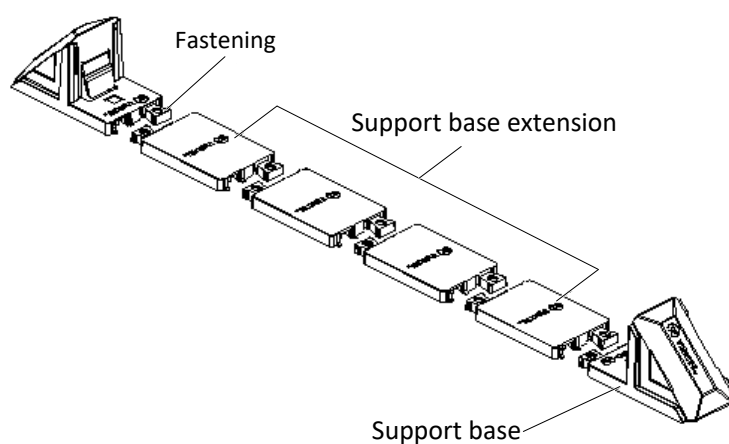

Figure 2-5 Connecting the support base with support base extension
2. If battery module installation is necessary, take out other support base extensions delivered with the battery module, and then assemble the support base extensions and the support bases through the fastenings, as shown in Figure 2-5.